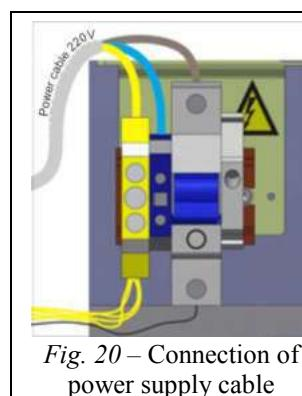
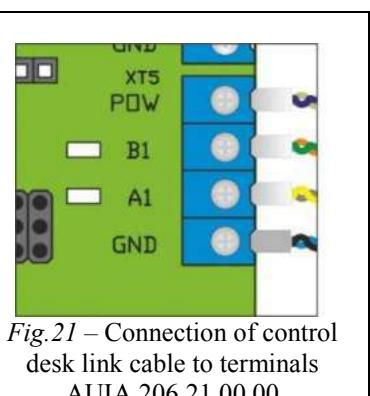

Fig. 20 – Connection of power supply cable
Fig. 21 – Connection of control desk link cable to terminals AUIA.206.21.00.00
a) Power supply cable ~230 V to be connected (Fig. 20):
- Phase (L) - to be connected to circuit breaker;
- Neutral (N) to be connected to terminal ~230V;
- Earth (PE) to be connected to earthing terminal (PE).
b) Control desk link cable to be connected to terminals (Fig. 21):